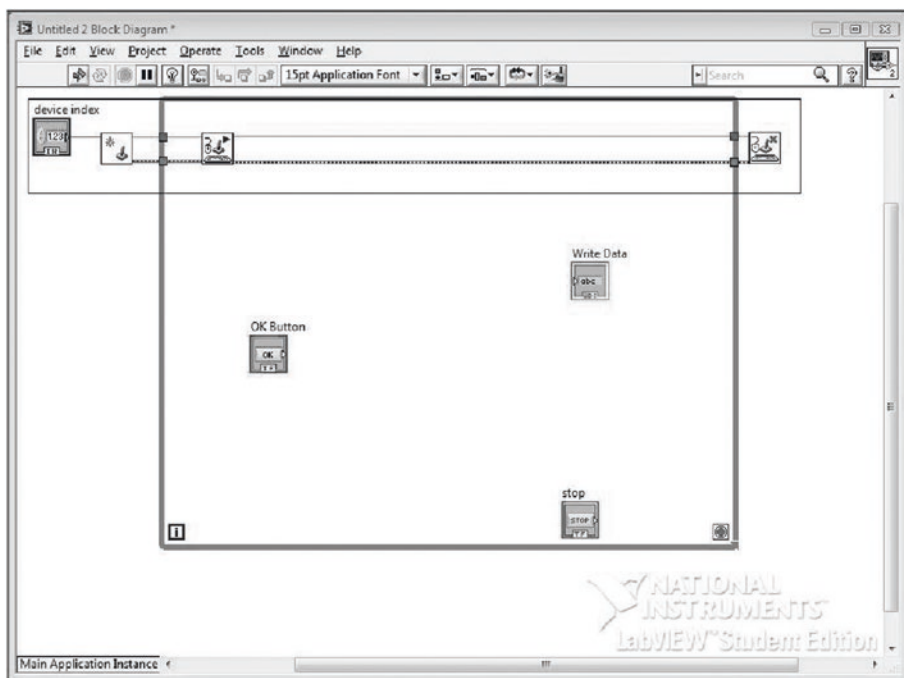

Figure 10-23. Add Input Device Functions to the Block Diagram
11. After that, right-click the device ID on the left side of the Initialize Joystick Function, and a pop-up menu should appear. Go to Create ► Control on the pop-up menu; this will add a control to your Block Diagram and Front Panel. Figure 10-23 shows adding the Input Device Control Functions to the Block Diagram. (Make sure you leave plenty of space on the Block Diagram, as we still have some functions to add to it.)